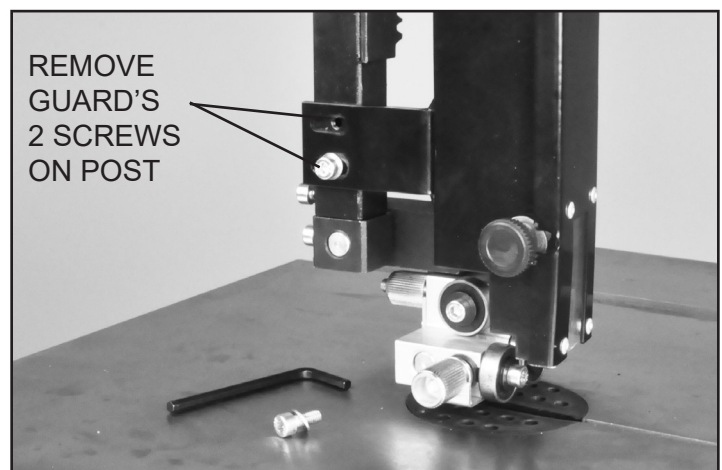

FIGURE 1
2. Remove the blade guard from the guide post by unscrewing the two Hex Socket Cap Screws that hold it in place. Figure 1. Save these screws as they will be needed to install the new guard that is included with the Retrofit Kit.